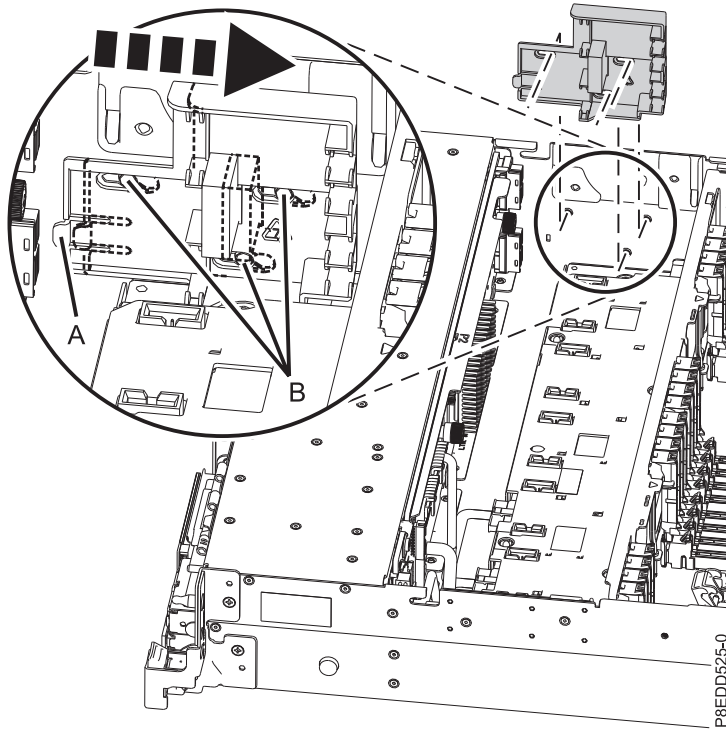

Figure 28. Replacing SAS cable guide
18. Replace the SAS cable guide by inserting the slots on the guide over the pins **(B)** on the chassis. Grasp the tab **(A)** of the guide and push the guide toward the rear of the system. Push the guide back until the slots are seated on the pins **(B)** and the tab **(A)** of the cable guide latches. See Figure 28 on page 31.